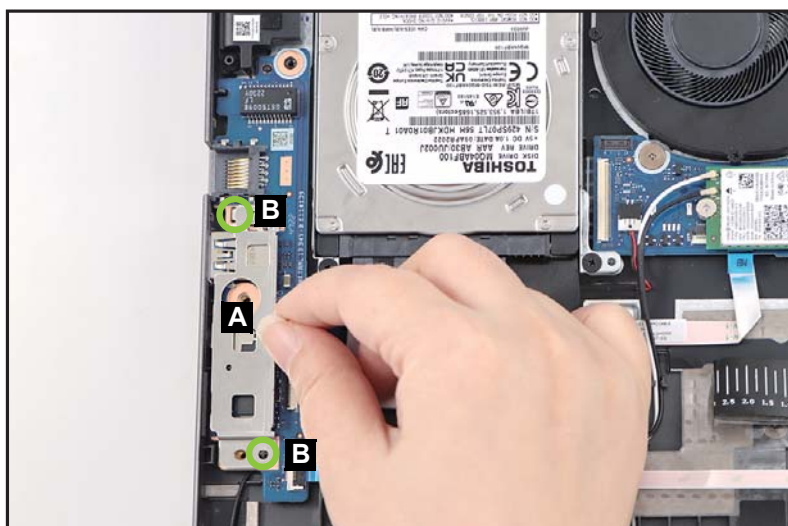

Figure 1-24. USB Board Removal
2. Lift the left IO bracket (A) to release it from the guide pins (B) (Figure 1-24). Then remove the bracket.